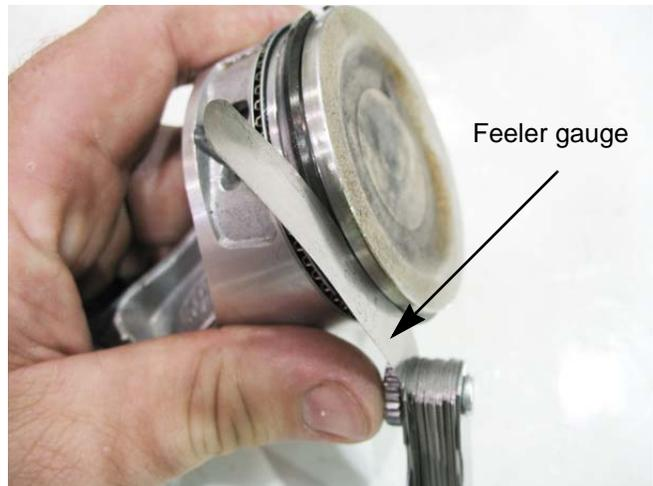

Figure 10.14
6. Measure the distance between the ring and the ring land using a feeler gauge and compare the measurement to the chart at the end of this chapter. See Figure 10.14.